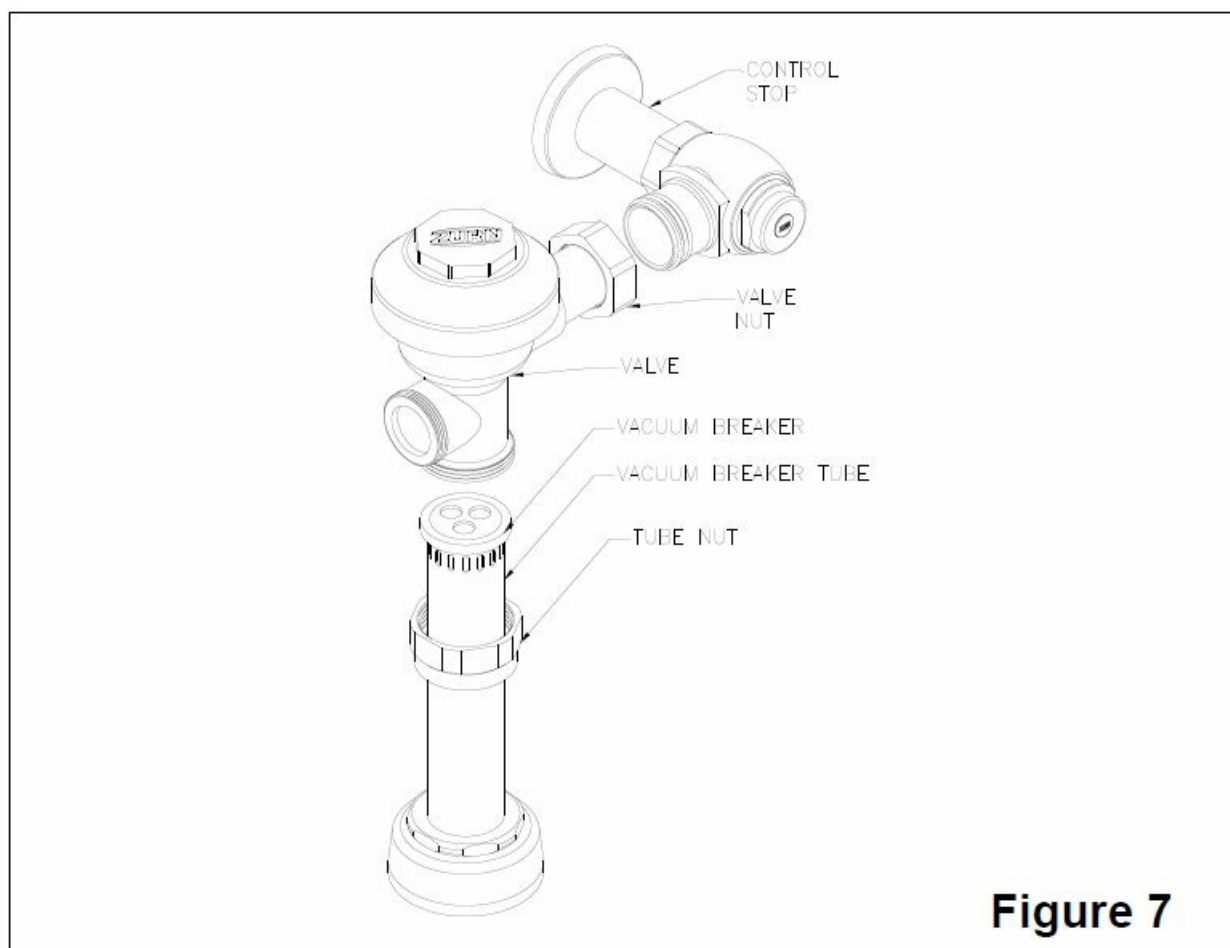

Figure 7
STEP 7 – Valve Installation (Figure 7)